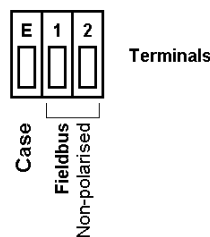

Fig 3 Installation and terminal connections
- c. Connect the panel wiring to the rear terminal block as shown in Fig 3. To simplify installation, the terminals are removable so that panel wiring can be completed before the instrument is installed.
Connection	2.3; Fig 3